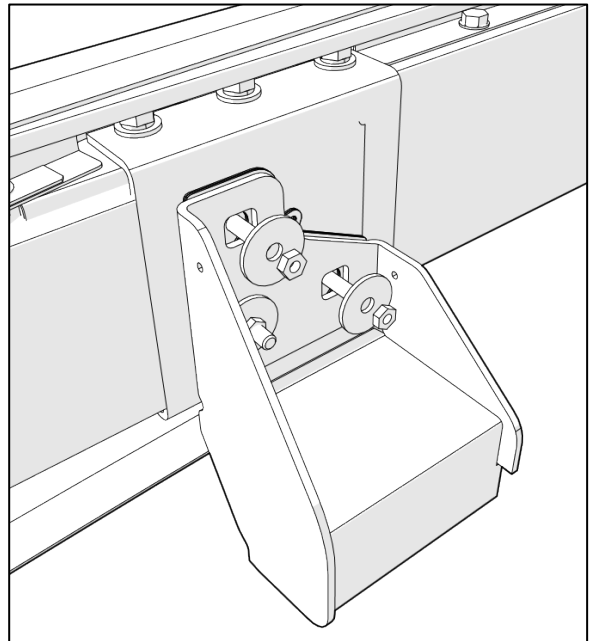

FIGURE 6
6. On the right side, loosen the bumper nuts (two) as shown on Figure 6. Do not remove the nuts completely.
7. On the left side, loosen the bumper nuts (two) as shown on Figure 6. Do not remove the nuts completely.